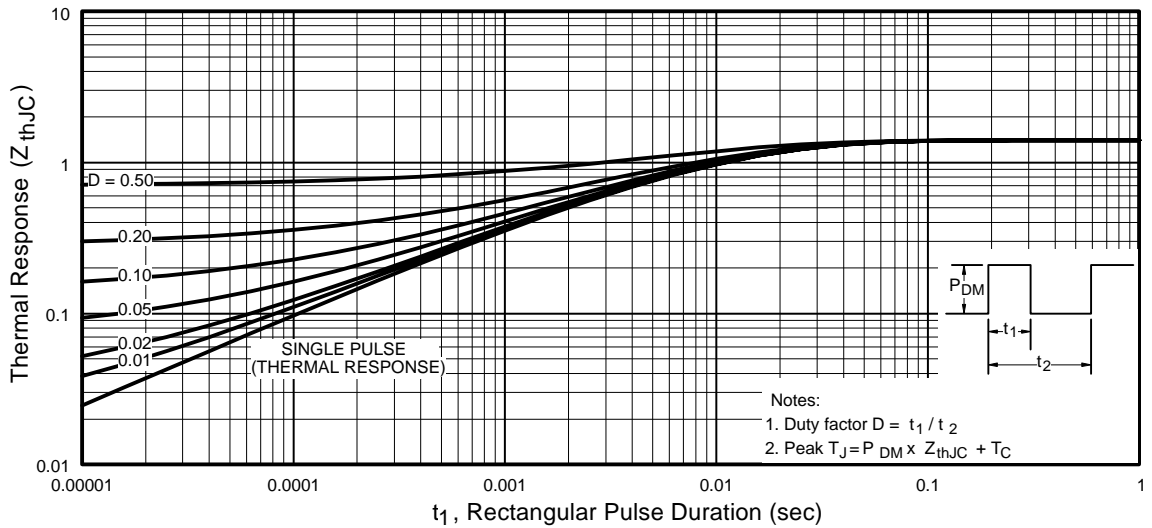

Fig 11. Maximum Effective Transient Thermal Impedance, Junction-to-Case
① Repetitive rating; pulse width limited by max. junction temperature. (See fig. 11)
② Starting $T_J = 25^\circ\text{C}$, $L = 520\mu H$